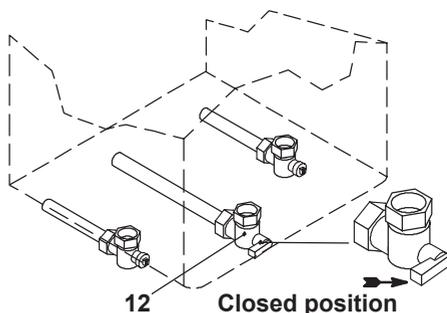

Fig. 2.8
- Shut off the gas supply cock 12 and the valves for the water circuits fitted under the boiler (Fig. 2.8).
shut off the valves positioned under the boiler (Fig. 2.8 on page 12) and call an Authorised Service Centre Engineer.